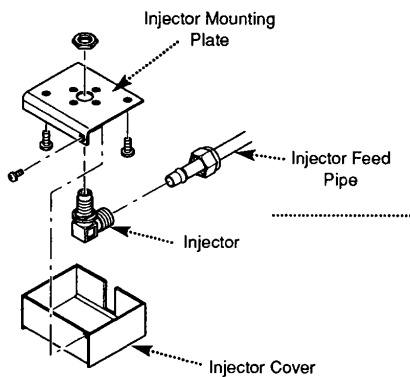

Fig. 42
9.6 Cleaning the Burner and Injector (Fig. 42)